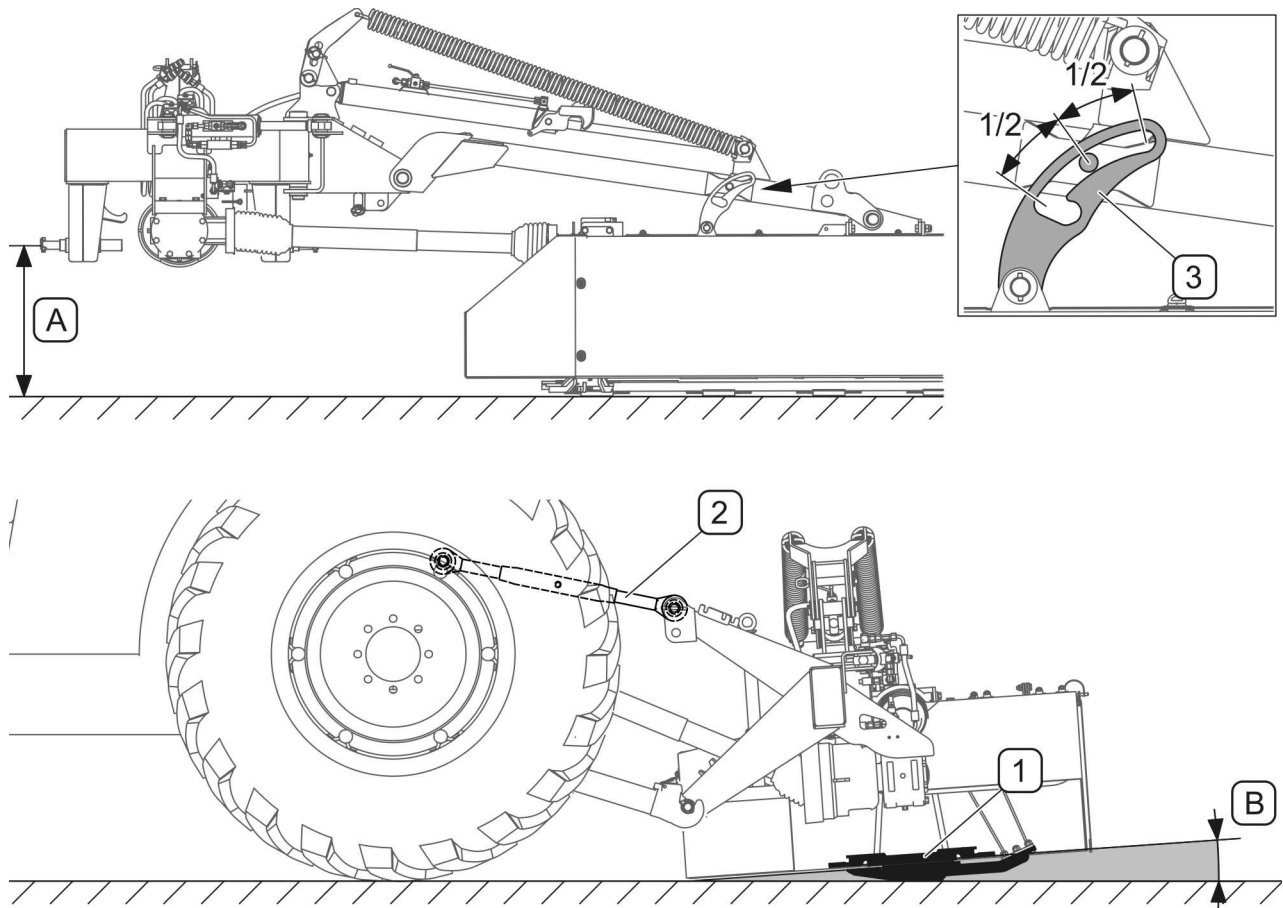

FIG. 4.7A Setting cutting height
(1)- tipping cylinder interlock valve; (2)- lifting arm cylinder interlock valve;
(3)- cylinder lock cable; (4)- cylinder lock
- Release lock (4) by pulling cable (3) and by operating the tractor's hydraulic circuit, lower lifting arm with cutting unit so that the cutter bar is supported freely on the ground and set tractor's hydraulic circuit in float position,
- set tractor three point linkage at a height of approx. A= 400 mm (FIG. 4.7A) so that the pin is more or less in mid lock range (3).
(1)- cutterbar; (2)- top link; (3)- lock; (A)- distance of lower link arms from ground - 400mm; (B)- cutterbar inclination $4^{\circ} \div 5^{\circ}$
Once the above is completed adjust the length of the top link (2) saw that angle (A) of cutterbar inclination (1) in relation to the ground is from 4° to 5° (FIG. 4.7A). Cutting height can be set higher by extending the top link (2), or set lower by shortening the top link.